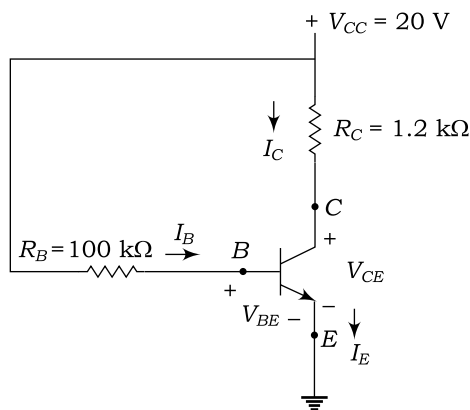

Fig. 2.114
41. Figure 2.114 shows a biasing circuit of an NPN transistor amplifier circuit. Calculate the base current, collector current, emitter current and collector-to-emitter voltage. Assume $V_{BE} = 0.6 \text{ V}$ and $\beta = 60$.